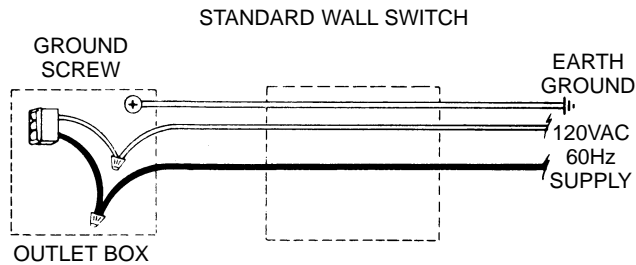

Fig. 5 - Wiring Diagram
4. Slide inside sleeve into place again, and pull power cable through outlet box opening. This will determine length of power cable to ventilator. Power line should be run to switch box holding toggle switch or optional timer. Attach cable to outlet box, using an approved connector, and splice cable to receptacle leads in outlet box cover. Ground wire may be attached to grounding bolt in outlet box. (See Wiring Diagram, Figure 5.)
7. Slide inside sleeve into place again and pull power cable through outlet box opening. This will determine length of power cable to ventilator. Power line should be run to switch box holding toggle switch. For more efficient operation, an optional timer is available. Attach cable to outlet box, using approved connector, and splice cable to receptacle leads in outlet box cover. Ground wire may be attached to grounding bolt in outlet box. (See Wiring Diagram, Figure 5.)